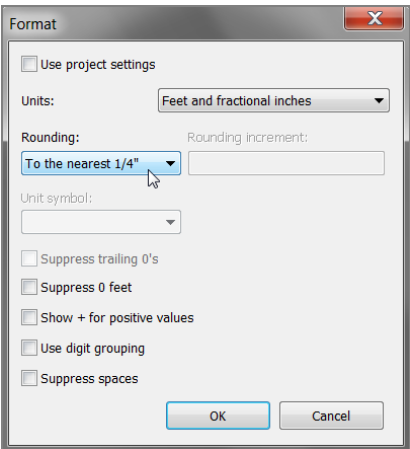

FIGURE 5.15 : Changing the dimension’s precision. Note some of the other available choices.
7. Choose **To The Nearest 1/4" (To The Nearest 10)** from the Rounding drop-down menu (see Figure 5.15).